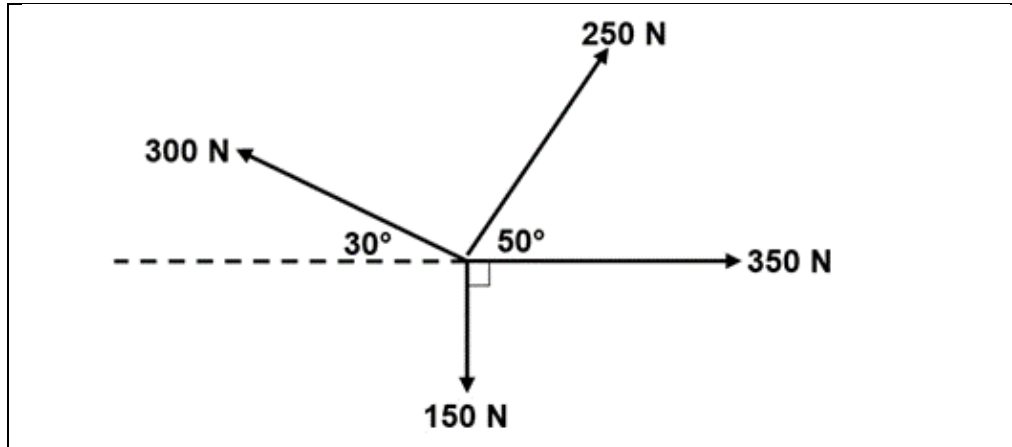

FIGURE 1
1.1 FIGURE 1 below shows a system of forces with four co-planar forces acting on a point. Use calculations and determine the magnitude and direction of the resultant force for this system of forces.